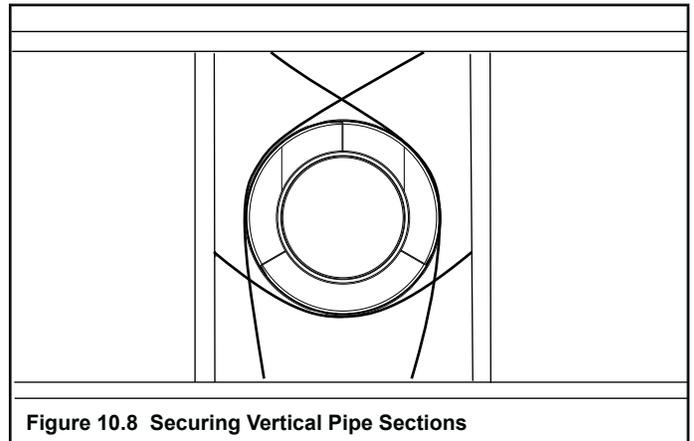

Figure 10.8 Securing Vertical Pipe Sections
- Vent support or plumber’s strap (spaced 120° apart) may be used for support. See Figures 10.8 and 10.9.